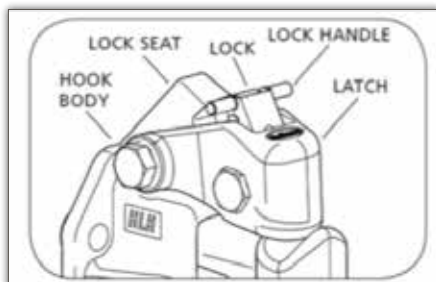

Figure 17
- Open the latch by rotating the latch assembly up toward the vehicle until the latch is in its most upright position, then release the lock handle. (Figure 17 and 18)